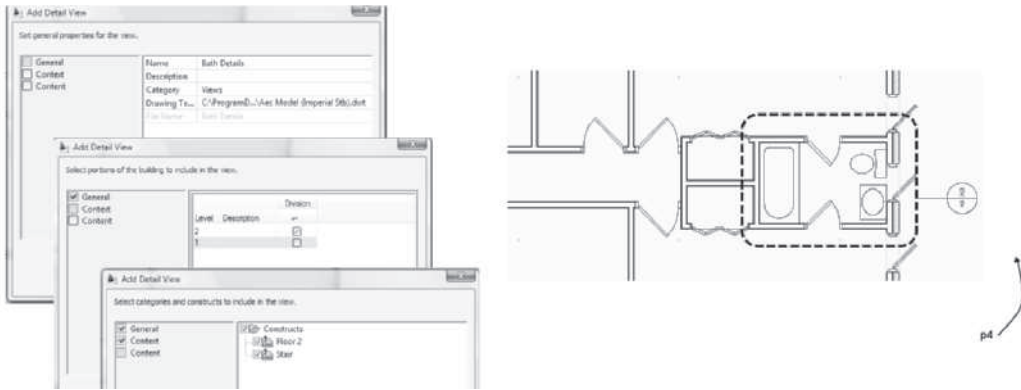

FIGURE 12.35 Creating the View drawing and defining the location of detail for the new Model view drawing
3. Click **New View Drawing** to open the Add Detail View dialog box shown in Figure 12.35.
4. Type a name for the view drawing (the Bath Details name) as shown in Figure 12.35.
Specify insertion point for the 2D section result: (Select a point at p4 as shown in Figure 12.35 to specify the location of the model space view.)